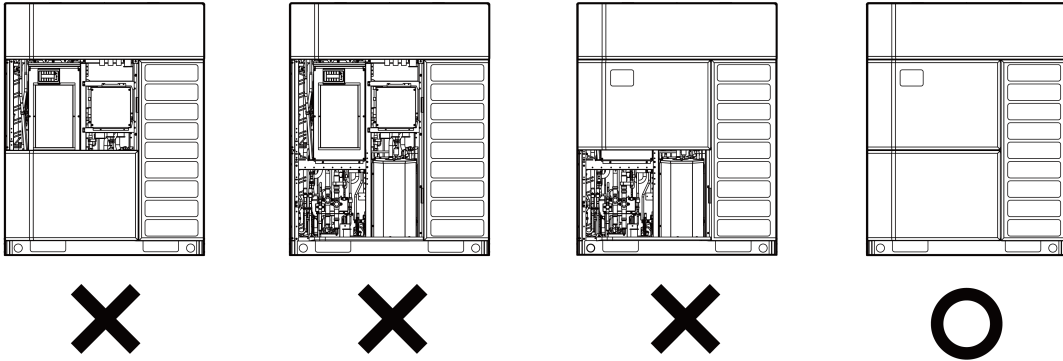

Fig.4.1.1
- ① Installation and debugging operation must comply with the relevant regulations of the local country or region.
- ② Debugging must be carried out by a professional or under the guidance of a professional. Do not debug the air conditioning unit by yourself.
- ③ Power cannot be supplied until all installation work is completed.
- ④ When debugging, the front panel of the outdoor unit must be completely closed, otherwise it will affect the accuracy of debugging (as shown in the Fig.4.1.1 as below).